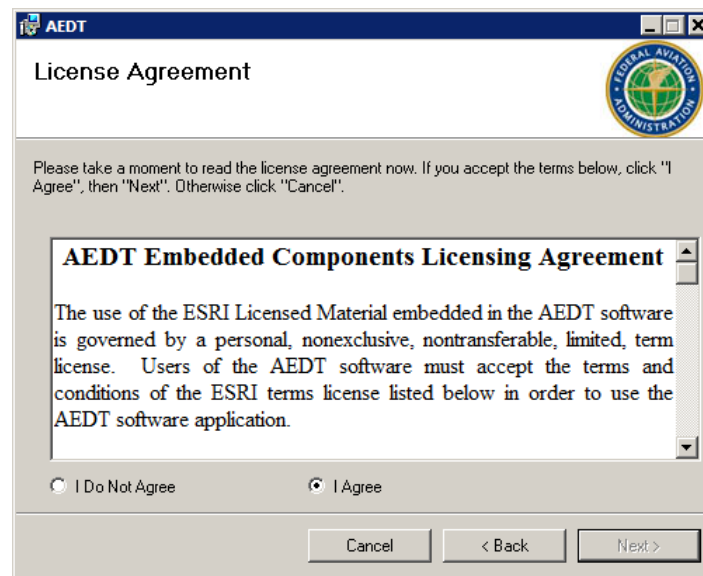

Figure 2-21 AEDT Setup Wizard – License Agreement
5. License Agreement – Read the license agreement and select *I agree* (Figure 2-21). Click *Next*.